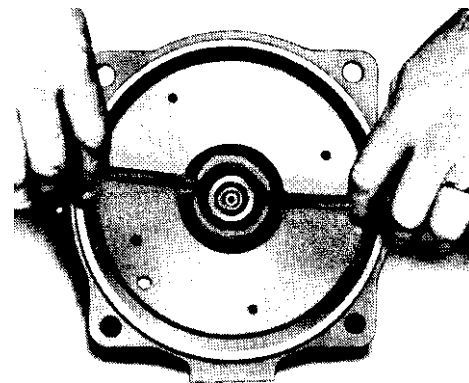

Figure 2
1. Remove foot bolt (10).
2. Remove casing bolts (12).
3. Remove back pull-out assembly from casing (2).
4. Remove guidevane seal ring (3) and diaphragm (4).
5. Remove guidevane screws (5) from adapter (11).
8. Remove impeller (7), turning **COUNTER-CLOCKWISE**.
9. Using two screwdrivers, pry off rotary section of mechanical seal (8). Discard. See Figure 2.
10. Remove motor adapter bolts (13) and remove motor adapter from motor.